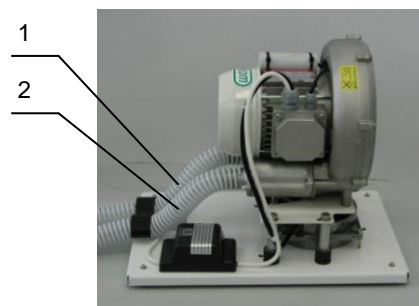

Fig.3
Two hoses, one for suction (1) and one for exhaust (2) are connected to the suction pump (Fig.3). The hoses are inlet (1) and outlet (2) of the pump. They protrude through the rear hole of the box, or they are connected to the pipe-work under the floor. Suction (vacuum) hose is connected to the separator/pneumatic control module at the dental chair, and exhaust hose is vented away from the surgery to the environment outside of the building.